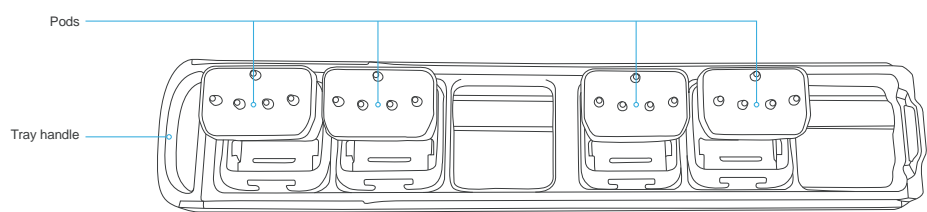

Figure 9: Pods in Tray
2. Open the Pod package and place the Pods into the trays. Orient the Pods with the reservoirs toward the back of the tray (See Figure 9).